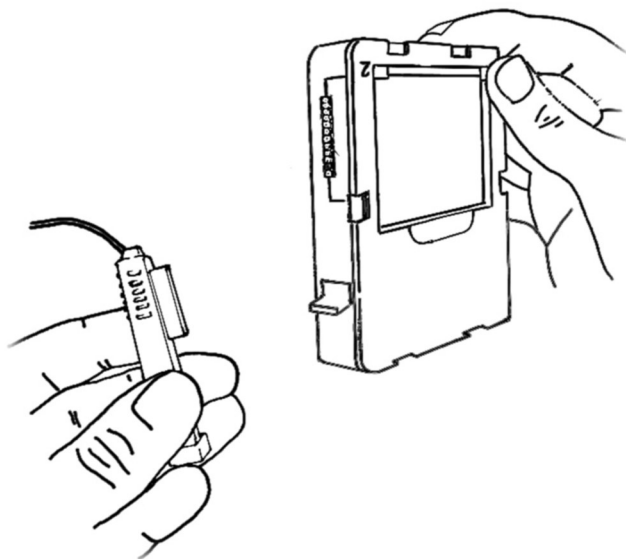

Figure 11.4: Connecting the lead adapter to the eCLS. Port 2 (electrodes 13–24) is shown here. Port 1 (electrodes 1-12) is on the opposite side of the eCLS.
1. Line up the end of the lead adapter plug with the socket on the eCLS port to ensure the connector pins do not get bent (Figure 11.4). Push the lead adapter plug into the eCLS until it clips into place.